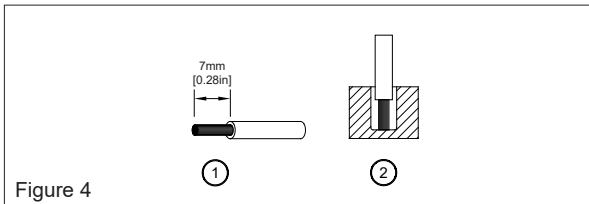

Figure 4
(1)	0.82-3.3	18-12	0.91	8.1
(2)	0.82-3.3	18-12	0.61	5.4
To secure reliable and shock proof connections, the stripping length should be 7 mm [0.28 in] (see Fig. 4 (1)). Please ensure that wires are fully inserted into the connecting terminals as shown in Fig. 4 (2).